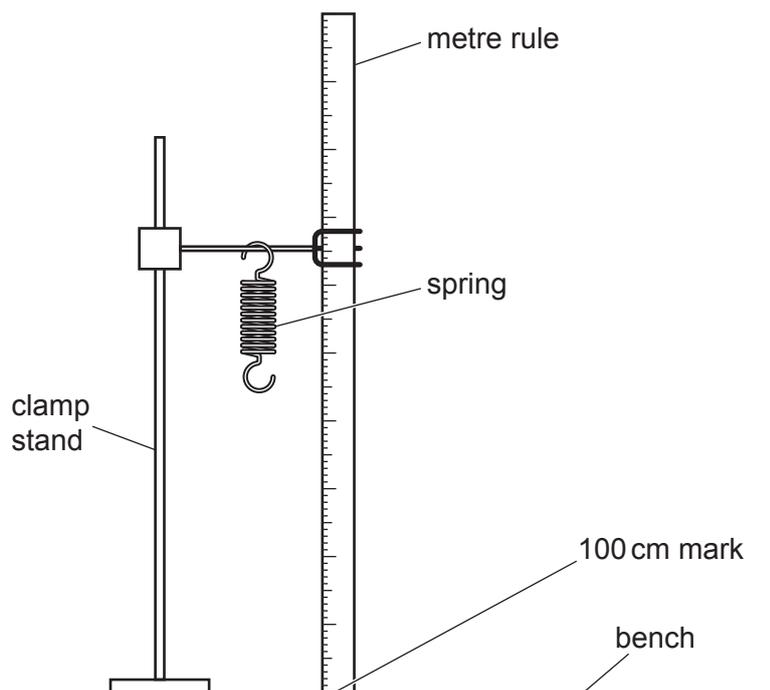

Fig. 1.1
3. The apparatus is to be set up for the candidates as shown in Fig. 1.1. The spring is to be sufficiently high above the laboratory bench that when the 1.0 N load is suspended from the spring, the bottom of the load is about 10 cm above the surface of the bench.
Check that the apparatus is set up as shown in Fig. 1.1.